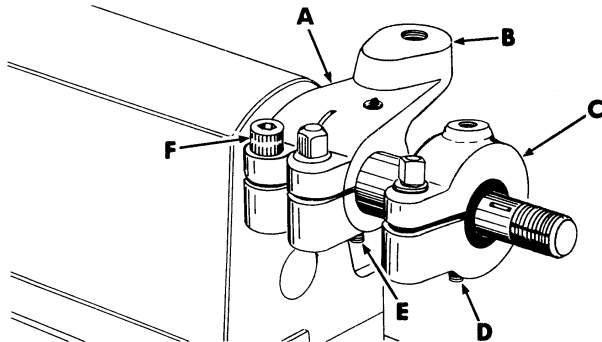

Figure 2
6. Install bracket (A, Fig. 2) on bearing. Align slot in ram with hole in bottom of bracket. Turn headless set screw (E) into bracket until dog point enters slot in ram. Adjust screw so ram slides freely and lock in place with nut. Turn bracket until pad (B) is level and lock in place with screw (F).
7. Place collar (C) on the end of ram. Align hole in bottom of collar with slot in ram. Turn headless set screw (D) into collar until dog point enters slot in ram -- lock in place with nut.